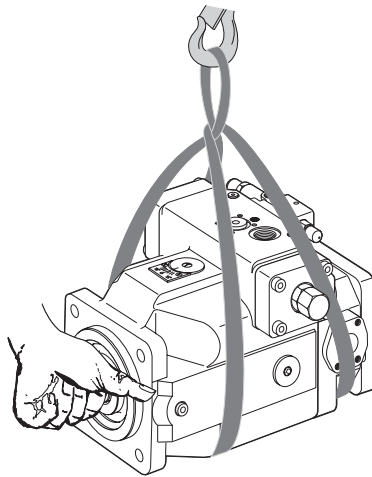

Fig. 17: Transport with lifting strap
- Place the lifting strap around the SYDFE1 control system in such a way that it neither passes over the attached parts (e.g. valves) nor such that the SYDFE1 control system is hung from attached parts (see Fig. 17).